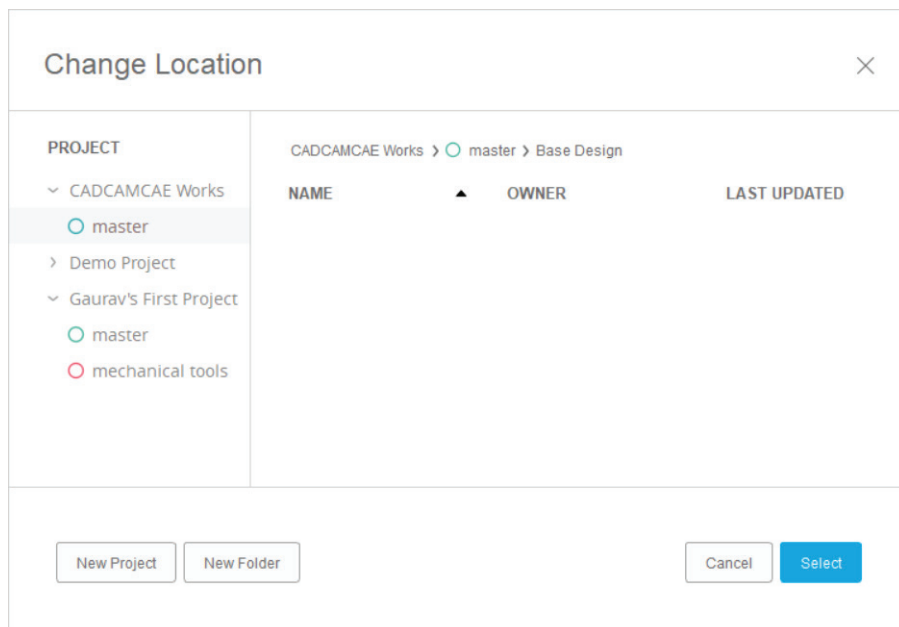

Figure-82. Change Location dialog box
- If you want to change the location where files will be uploaded then click on the **Change Location** button and select the desired location from the **Change Location** dialog box; refer to Figure-82. After selecting desired location, click on the **Select** button. You will return to **Upload** dialog box with updated location.